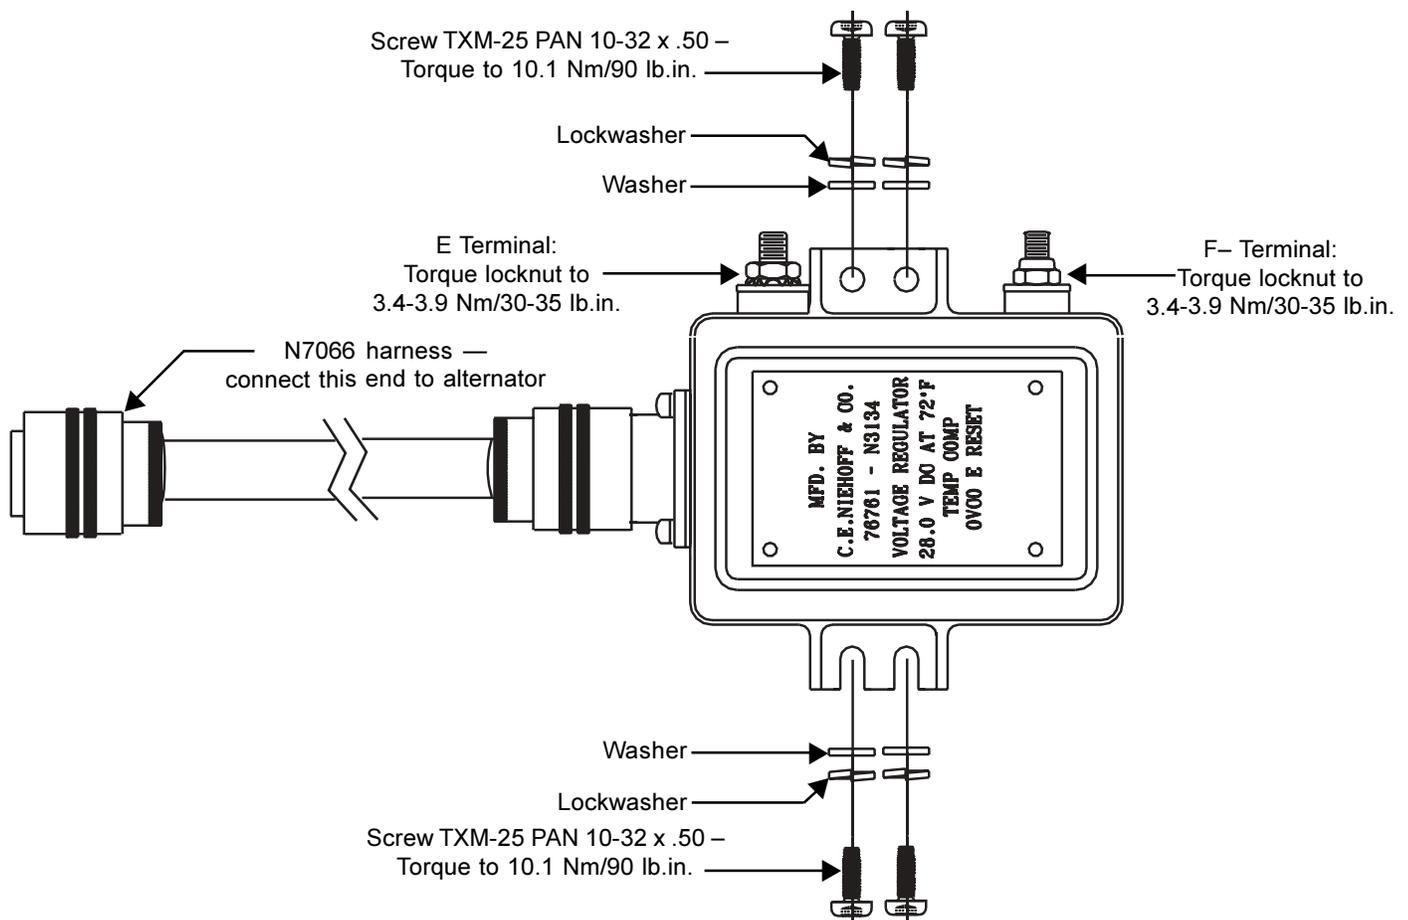

Figure 1 - Regulator/Harness Attachment
1. Set N3134 regulator on N1235-1 alternator. Use mounting holes shown in Figure 1.
2. Install new mounting hardware (in bag supplied with alternator) as shown in Figure 1. Coat screw threads with Loctite®\* 222 thread adhesive. Follow instructions on bottle. Tighten mounting hardware to 10.1 Nm/90 lb. in.